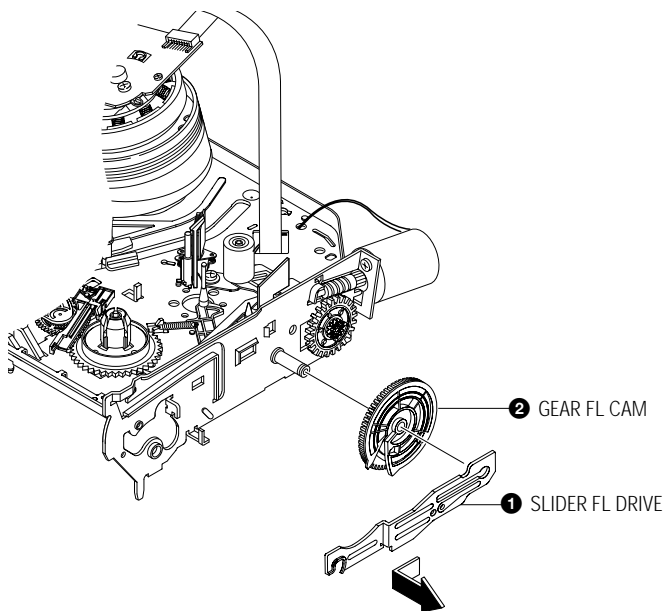

Fig. 2-14 Slider FL Drive Removal
- 2) Remove the Slider FL Drive **1** in the direction of arrow. (Refer to Fig. 2-14)